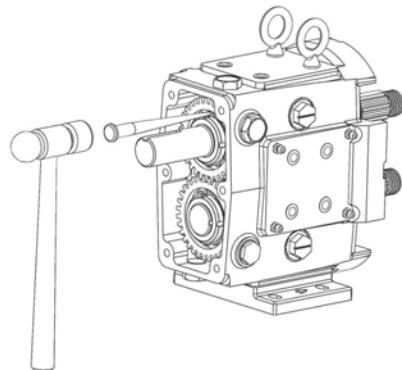
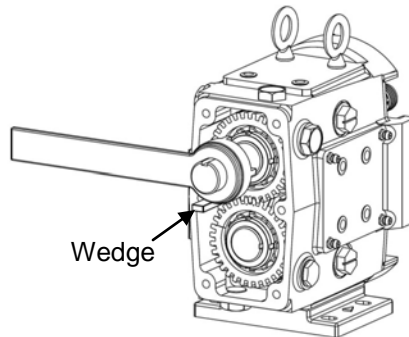

Figure 30: Bending Tabs on Lock Washers
Figure 31: Removing Lock Washers
2) Using a hammer and a punch, bend the tabs straight on the lock washers (Figure 30). Use a wedge (wood or plastic) to keep the shafts from turning while removing the lock nuts (Figure 31). Using a spanner wrench or the nut removal tool (available from Ampco), remove the gear lock nuts. Slowly remove the gears from the shafts. Remove the gear keys and gear spacers from the shafts.